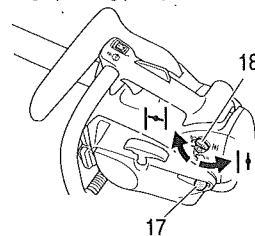

Fig. 14
3. Push priming pump (17) about ten times so that fuel flows through priming pump into carburetor. (Fig. 14)
4. Turn the choke lever (18) to choked position (Fig. 14). This will automatically lock the throttle in starting position.
6. When you hear first ignition, return the choke lever to run position. (Fig. 14)